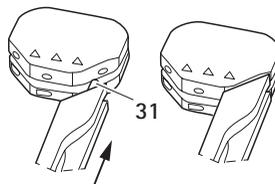

Fig. 19 Applying the activ L angled revision distraction forceps
- ▶ Insert pins **31** of the distraction forceps into the holes on the right-hand side of the implant, see Fig. 19.